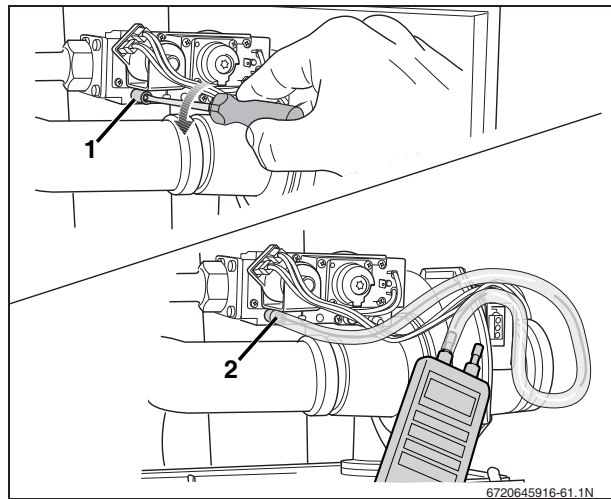

Fig. 61 Measuring the gas supply pressure
- Open the screw plug on the testing nipple for the gas inlet pressure by 2 turns (fig. 61, [1]).
- Connect the pressure gauge connection tube to the positive port of the testing nipple (fig. 61, [2]).